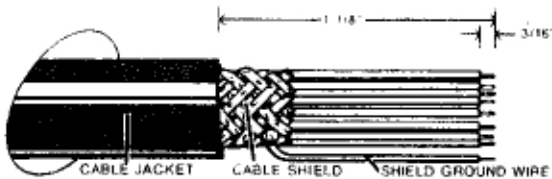

Figure 2.7 Cable End Preparation
- 1) Strip approximately 1 1/8 inch of the vinyl jacket off of the control cable, Figure 2.7.